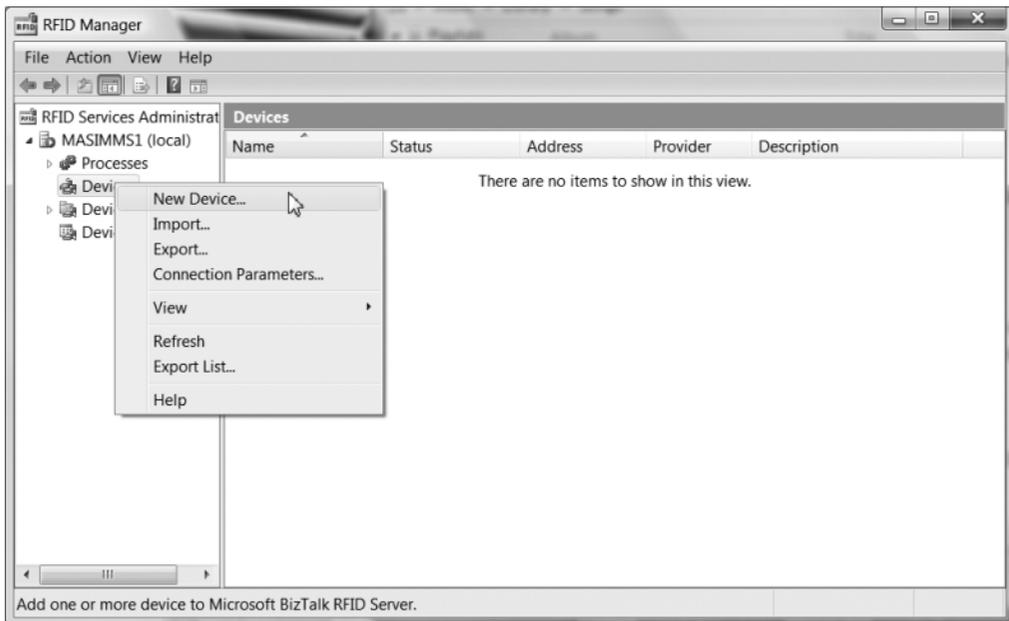

Figure 3-6. Starting the *New Device* dialog
3. Expand the computer name and click Devices. Right-click Devices, and then click New Device from the context menu, as shown in Figure 3-6.